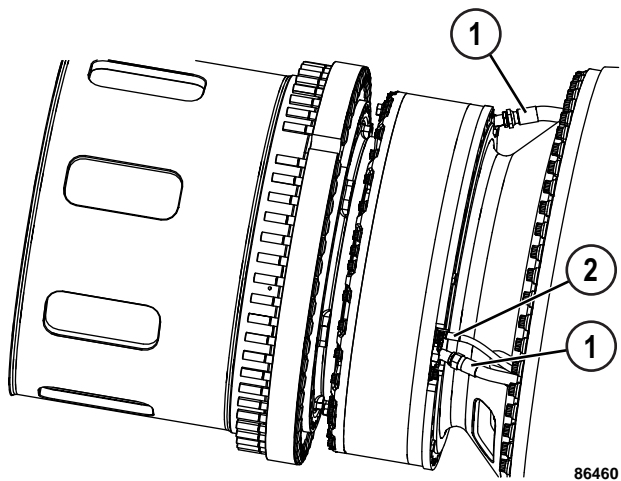

FIGURE 50-138. REAR BRAKE HOSES
4. Disconnect brake cooling hoses (1, Figure 50-138) and brake apply hoses (2) from both of the rear brakes. Plug the hoses and ports.